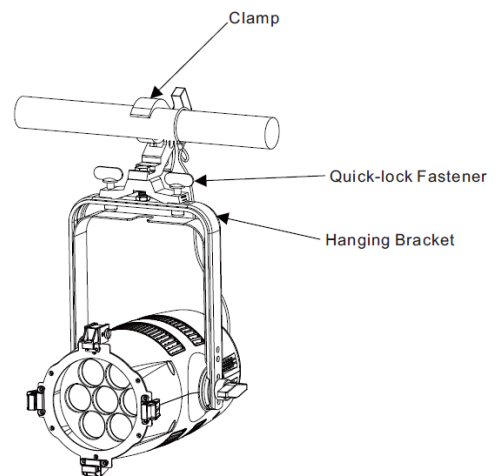

Figure 3: Quick-lock Fastener Installation
Step 1. Bolt each clamp to the Omega holder with screw and lock nut through the hole in the holder as shown in Figure 3